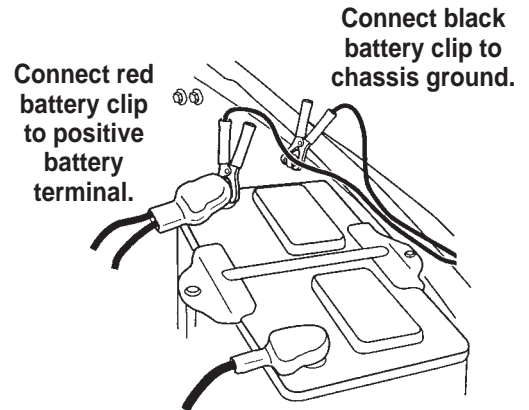

Figure 2
7. Connect the battery clamps from the tool to a known good, 12-volt source; the vehicle battery is recommended. See Figure 2.